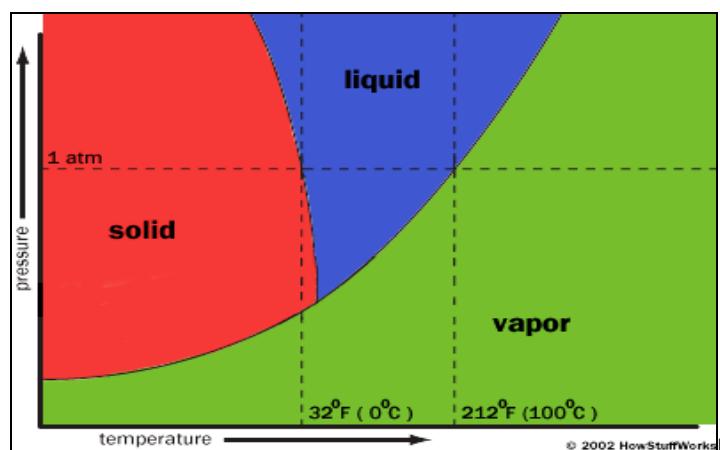

FIG. 1: PHASE DIAGRAM
**Principle6:** The fundamental principle in freeze-drying is sublimation, the shift from a solid directly into a gas. Just like evaporation, sublimation occurs when a molecule gains enough energy to break free from the molecules around it. Water will sublime from a solid (ice) to a gas (vapor) when the molecules have enough energy to break free but the conditions aren't right for a liquid to form. There are two major factors that determine what phase (solid, liquid or gas) a substance will take: heat and atmospheric pressure. For a substance to take any particular phase, the temperature and pressure must be within a certain range. Without these conditions, that phase of the substance can't exist. The chart below in **fig. 1** shows the necessary pressure and temperature values of different phases of water.
We can observe from fig. 1 that, water can take a liquid form at sea level (where pressure is equal to 1 atm) if the temperature is in between the sea level freezing point (32 degrees Fahrenheit or 0 degrees Celsius) and the sea level boiling point (212°F or 100°C). But if we increase the temperature above 32°F while keeping the atmospheric pressure below 0.06 atmospheres (ATM), the water is warm enough to thaw, but there isn't enough pressure for a liquid to form. It becomes a gas.